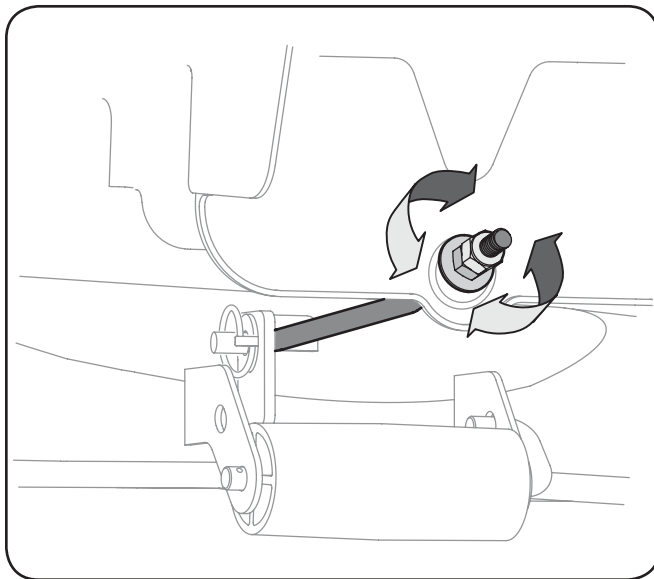

Figure 6-4
1. To *raise* the front of the deck, tighten (thread inward) the hex nut against the front hanger bracket. See Fig. 6-4.
2. To *lower* the front of the deck, loosen (thread outward) the hex nut, away from the front hanger bracket. See Fig. 6-4